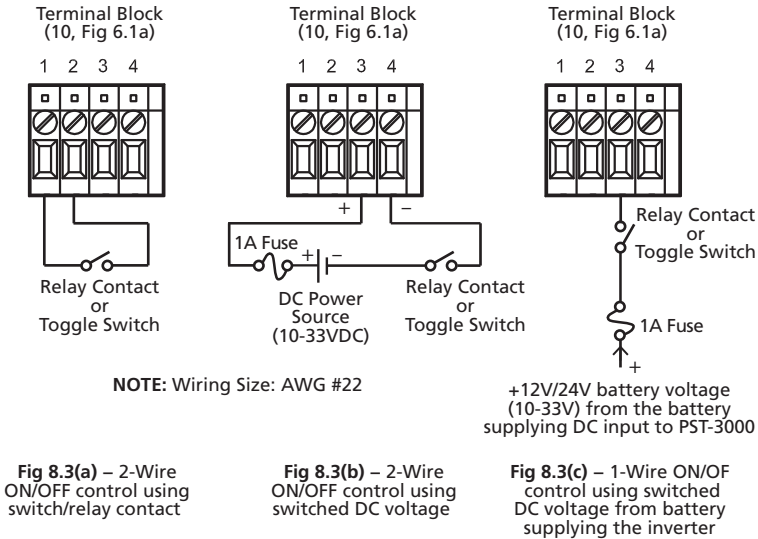

Fig. 8.3: ON/OFF Control from Remote Location using External 2-Wire or 1-Wire Control
The unit can be switched ON/OFF from a remote location using external, wired ON/OFF control arrangements as shown in Fig 8.3(a), (b) and (c). Please see the following details:
- **2-Wire ON/OFF Control from Remote Location Using Switch/Relay Contact, Fig 8.3(a):**
- **2-Wire ON/OFF Control Using Switched DC Voltage (10-33VDC), Fig 8.3(b):**
- **1-Wire ON/OFF Control Using Switched DC Voltage from the Battery Supplying the Inverter, Fig 8.3(c) :**